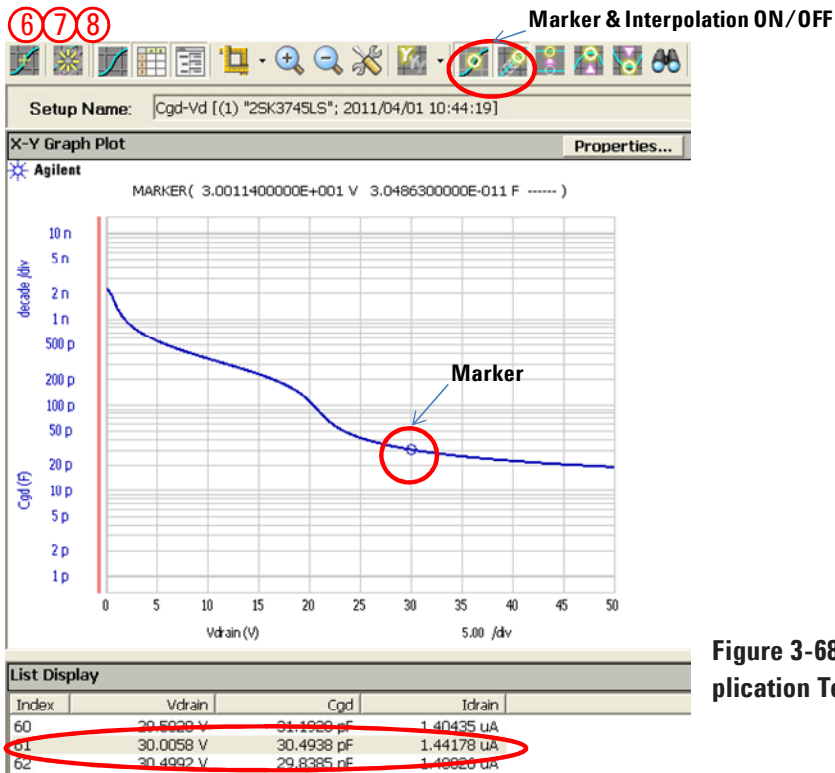

Figure 3-68. Cgd-Vds output from Cgd Application Test.
Step 8. You can see the Cgd-Vdrain graph as shown in figure 3-68.
Figure 3-68 plots Cgd in Y axis versus drain voltage Vdrain in X axis.
Step 19. You can see the same graph shown in figure 3-68.
Note: Step 18 and 19 are the same as the step 7 and 8 of figure 3-68.